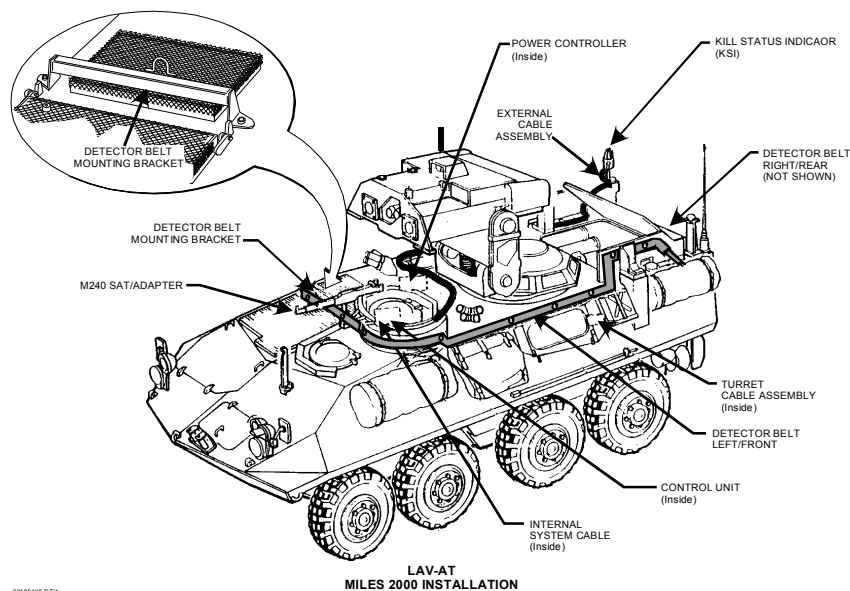

Figure 2-12. LAV-AT.
- e. Working with the short section, press the Right/Rear belt, starting at the Left/Rear corner, working to the right, centering the three (3) detectors above the doors. (See Figure 2-12.)